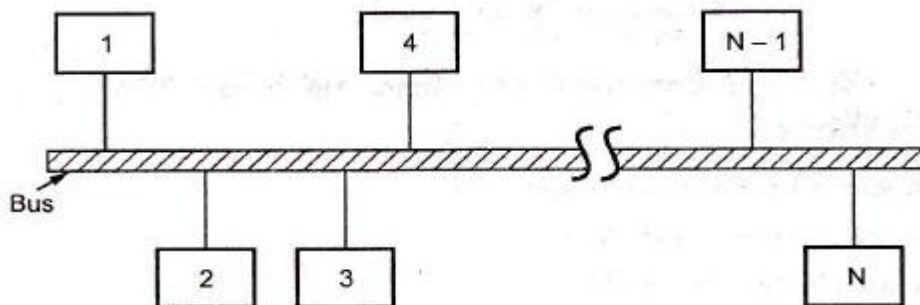

Fig. 8.5.2 Linear bus topology
- Linear bus configuration is similar to Ethernet topology using co-axial cable. Fig.8.5.2 shows linear bus configuration.